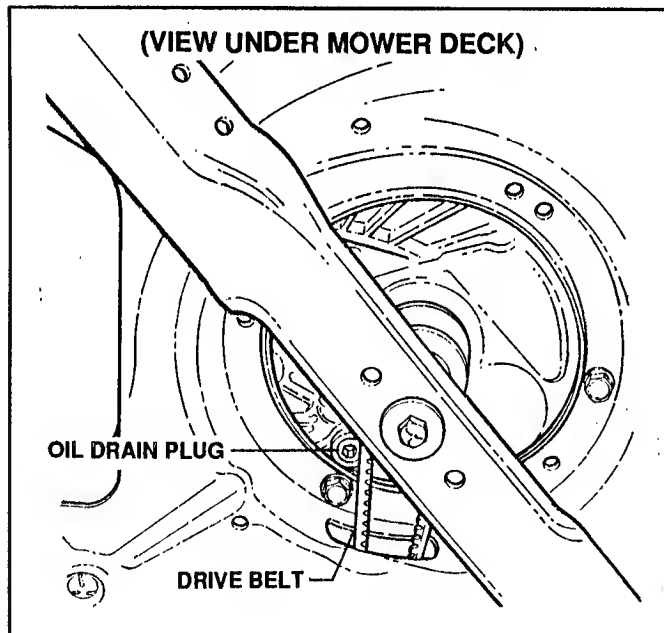

FIGURE 3.1
2. Tilt mower up on its rear wheels for access to the oil drain plug located underneath the mower deck. Do not tilt mower with spark plug or carburetor down. See Figure 3.1